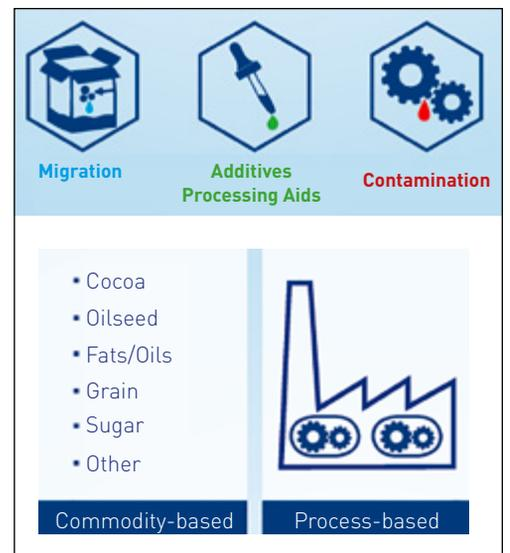

Fig. 3 Schematic diagram of the toolbox for MOSH/MOAH minimization/prevention
- ▶ Development of a toolbox for minimization MOSH/MOAH contamination by employing a research approach focusing on raw materials and processes (fig. 3). The structure of this toolbox is oriented on the various contamination